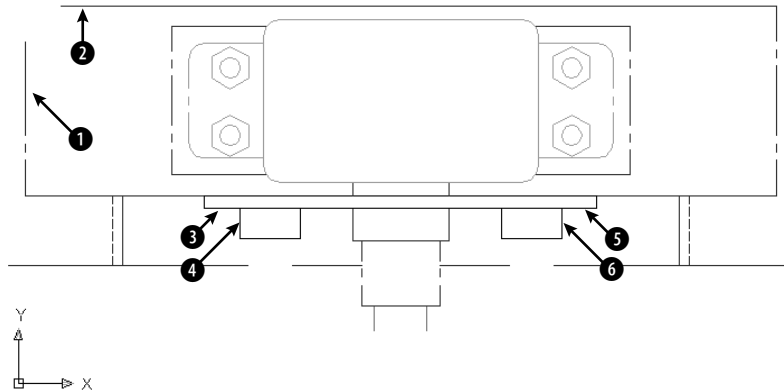

**Figure 10-33:** A mechanical drawing showing a small section of a “porcupine” mixer.
2. Save the file as `ab10-11.dwg` in your AutoCAD Bible folder. This is the same drawing used in the previous exercise. It is shown in Figure 10-33.
4. At the Select first object or [Undo/Polyline/Radius/Trim/Multiple]: prompt, pick the line at ① in Figure 10-33. At the Select second object or shift-select to apply corner: prompt, pick the line at ② to fillet the two lines.
6. At the Select first object or [Undo/Polyline/Radius/Trim/Multiple]: prompt, right-click and choose mUltiple. Pick the line at ③ in Figure 10-33. At the Select second object or shift-select to apply corner: prompt, pick the line at ④ to fillet the two lines. The prompts continue. This time pick at ⑤ and ⑥.